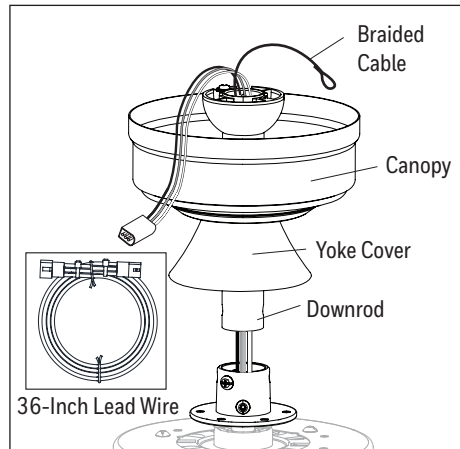

Figure 3.2
2. Insert the downrod through the canopy and yoke cover. Feed the wires and braided cable from the fan through the downrod. **Note:** Depending on the length of downrod you use, you may need to use the 36-inch lead wire to accommodate a 36 or 48-inch downrod (sold separately). When necessary, connect the 3-pin connector extending from the center of the downrod to one end of the 36-inch lead wire. The downrod included with this fan will not utilize the 36-inch lead wire (Figure 3.2).